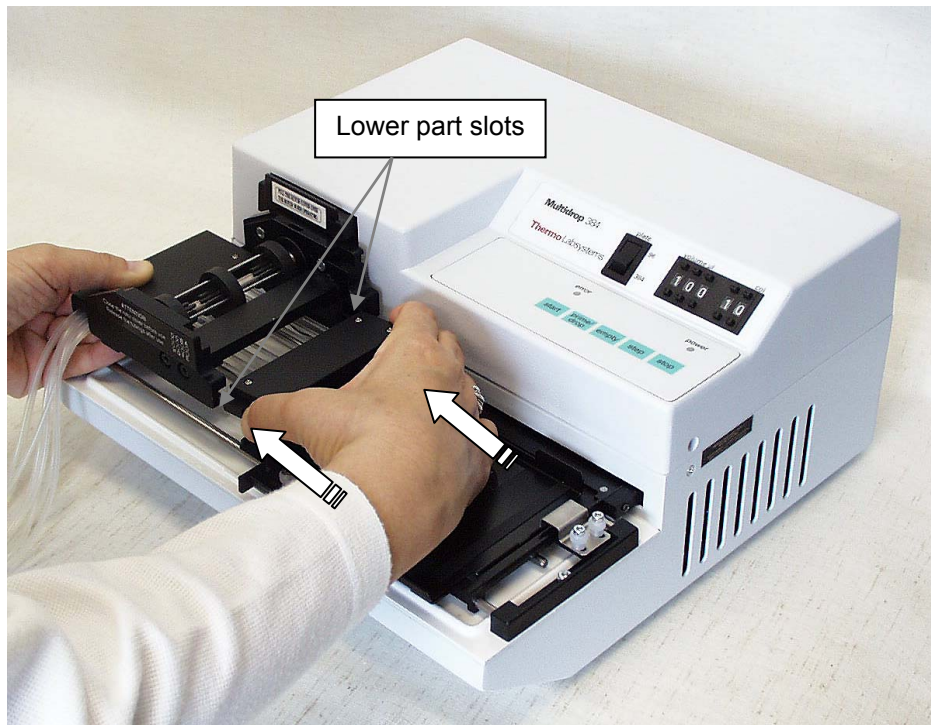
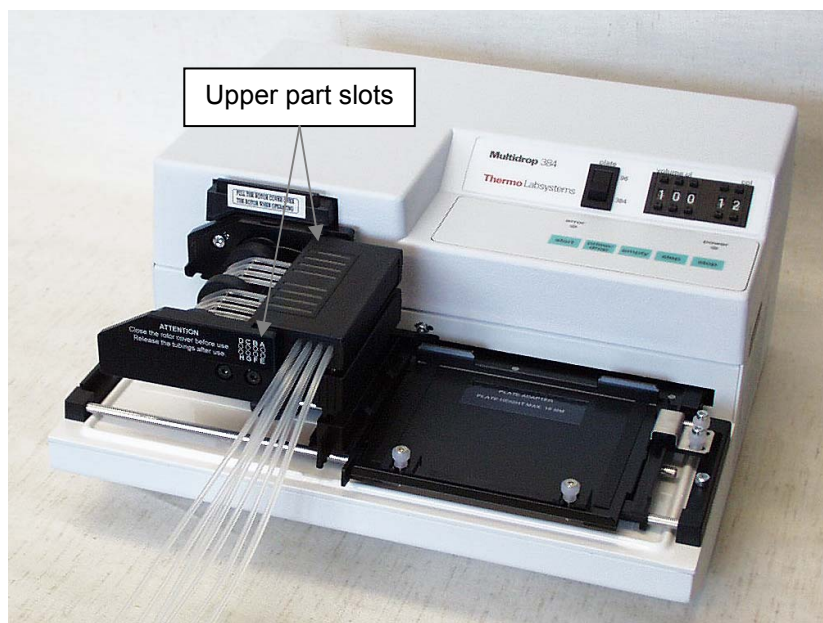

Fig. 6.3 Inserting the lower part of the dispensing cassette into its slots
Fig. 6.5 Lower and upper parts of the dispensing cassette inserted evenly into their slots
3. Carefully place the eight tubes below the pump rotor and insert the lower part of the cassette into the lower part slots of the pump body (Fig. 6.3). Check that the tubes are freely placed below the rotor and the tension limiting wires below the rotor shaft.
- Double-check that both the upper and the lower parts are properly placed into their corresponding slots (*Fig. 6.3* and *Fig. 6.5*).